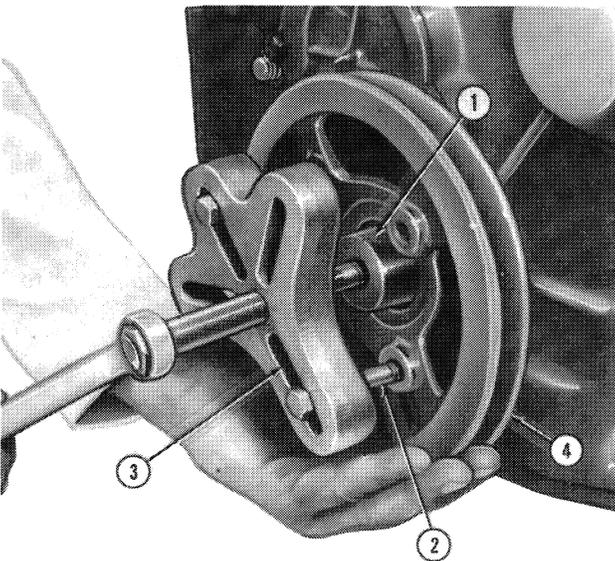

Figure 21
3. Using Puller No. 9539 and Shaft Protector No. 9212, remove the crankshaft pulley, Figure 21.